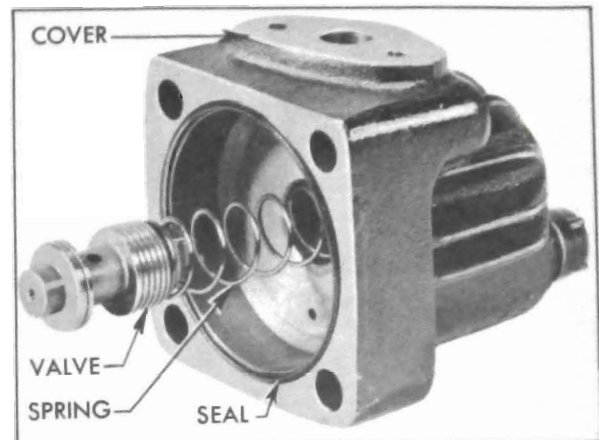

Figure 8-40—Pump Cover and Control Valve
4. Remove four bolts (no lockwashers) and carefully separate the pump cover from rotor ring and body using care not to lose the control valve which is under spring pressure. Then remove the control valve assembly and spring from pump cover. See Figure 8-40.